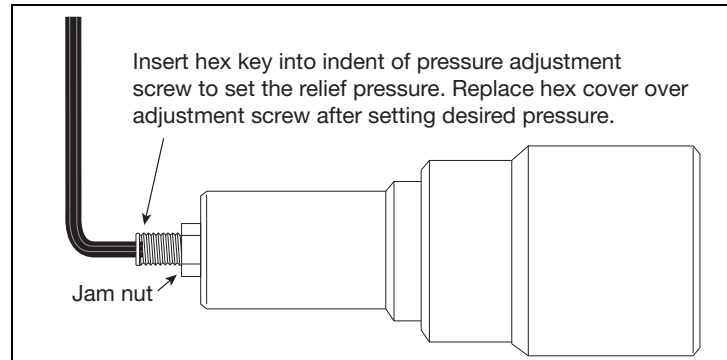

Figure 15. Setting Optional Adjustable Relief Valve Pressure
3. Adjust the set screw with the 1/4" hex key per Figure 15.